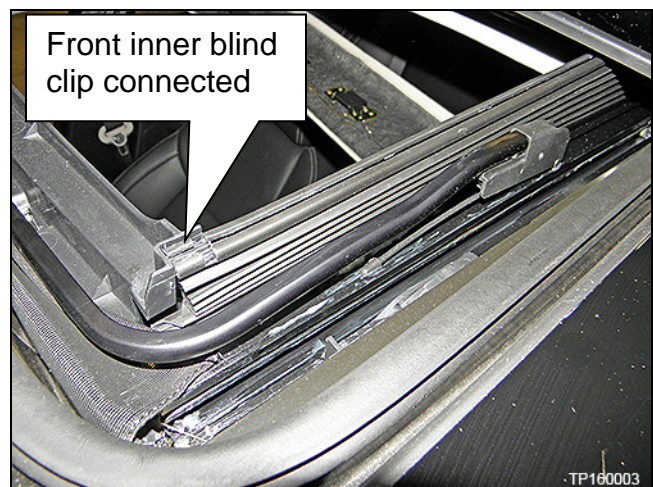

Figure 12
- b. Reconnect the front clip of the inner blind to the front corner of the Moonroof frame (Figure 12).